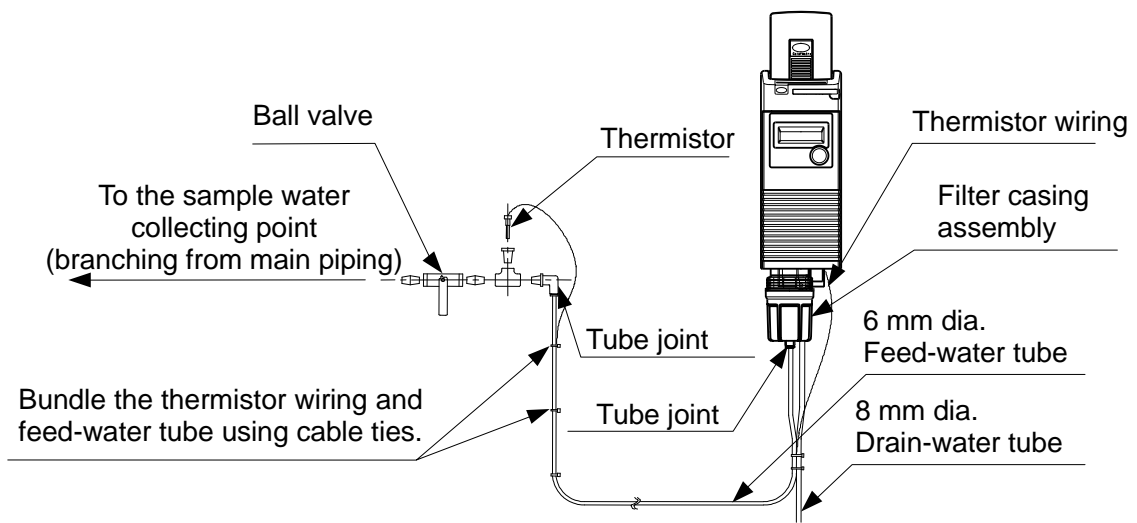

Fig3-1 Feed-water system
3.2 Feed-Water System (see Fig.3-1)